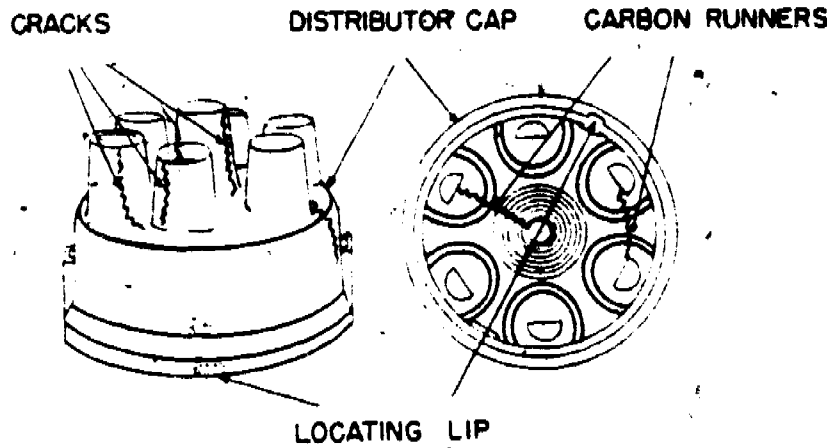

Figure 2. Cracked Distributor Cap.
(2) If a spark jumps between terminal of the cap, it should be replaced. If no spark jumps between terminals, the remaining empty wire wells should be checked in the same manner. Jumping between terminals indicates a faulty cap, figure 2.
(3) Turn cap over and open and close points.
(5) If a spark jumps from the cap to ground, the cap is faulty, figure 2.